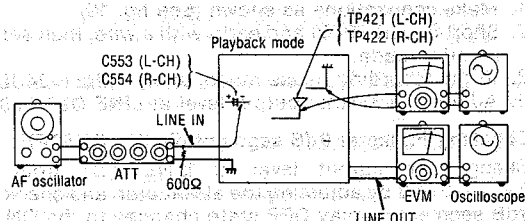

Fig. 23
1. Make connections as shown in fig. 23.